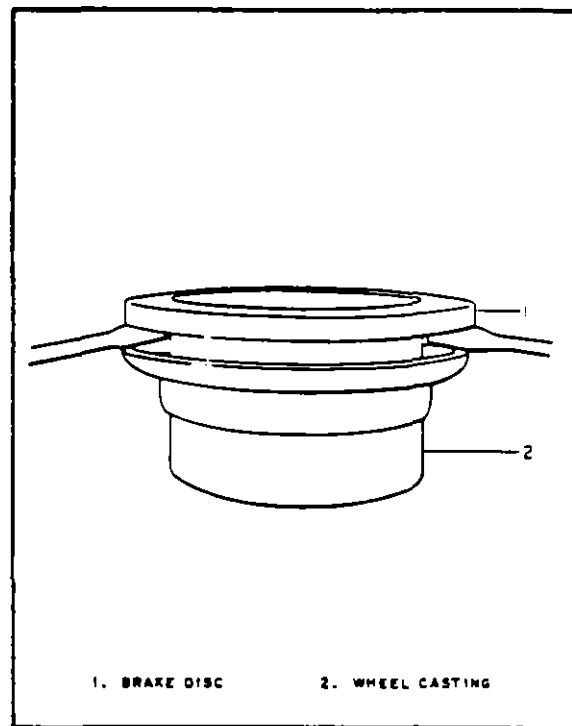

Figure 7-23. Removal of Wheel Brake Disc
a. Place wheel half assembly into boiling water for five minutes and remove disc from wheel casting by use of pry bars. (Refer to Figure 7-23.)